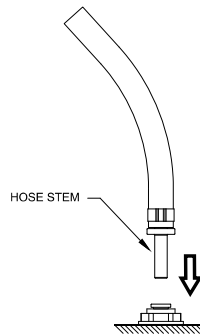

FIG.6
- 10)** Remove wand hose from parts box and packaging material. Locate the unthreaded stem end of hose. FIG.6
- 11)** Insert hose stem into bulkhead fitting. Pull gently to assure that hose stem is firmly seated. FIG.6